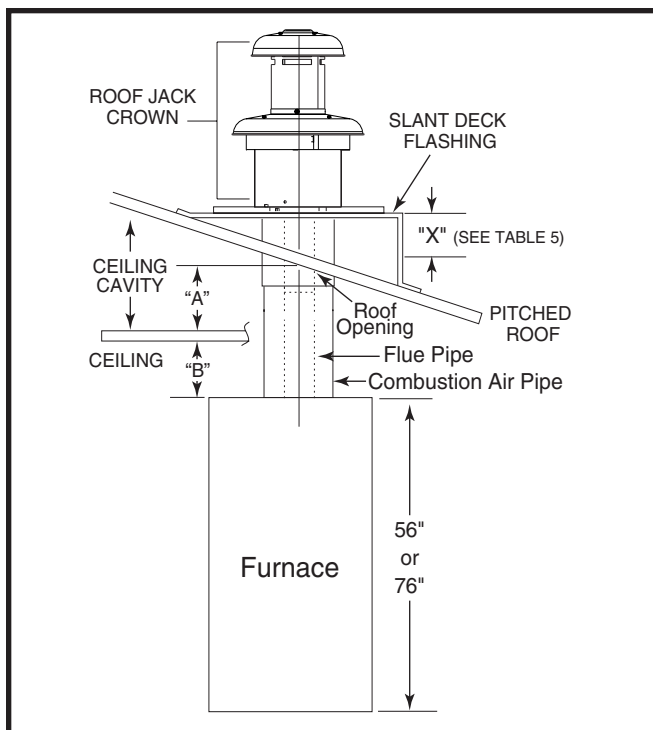

Figure 17. Ceiling Cavity Depth
1. Determine depth of ceiling cavity from center of roof opening to center of ceiling opening noted as "Dimension A" in Figure 17 (page 11).
2. Determine ceiling height and subtract height of furnace noted as "Dimension B" in Figure 17 (page 11).